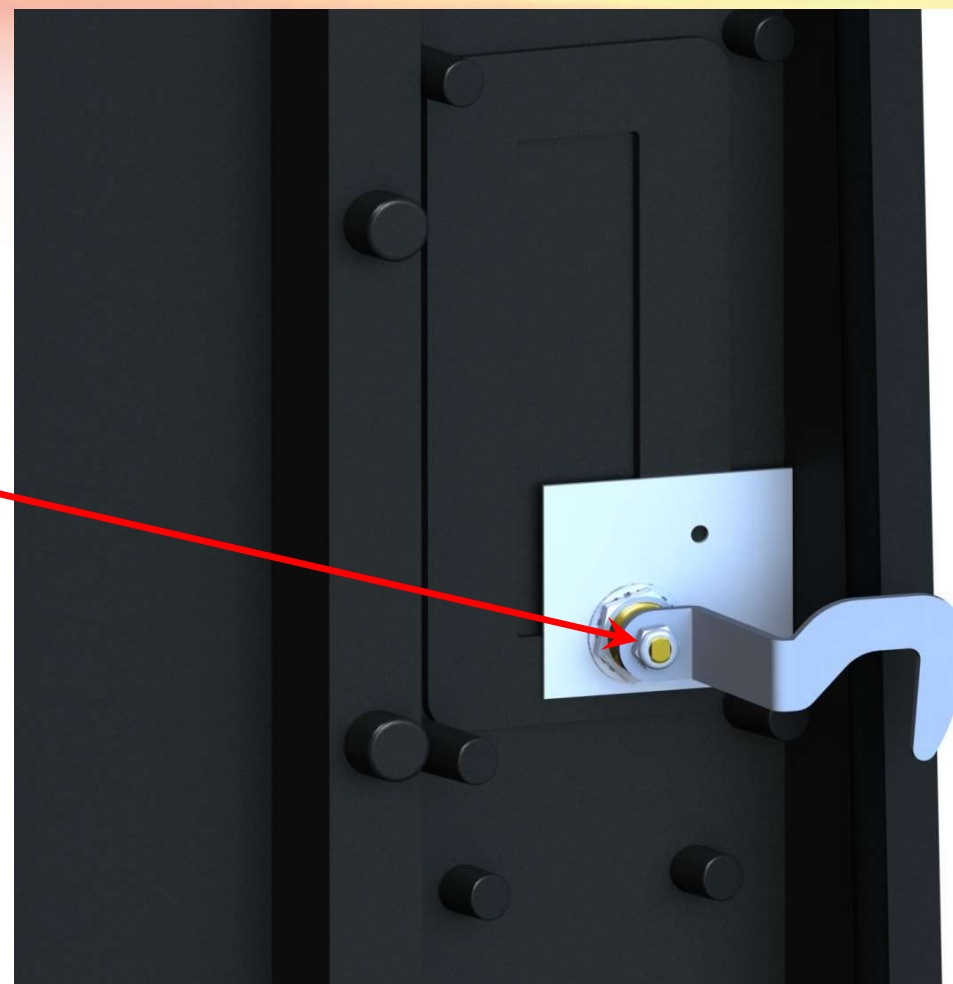

Figure 5
Install Cam (A) to Lock Assembly (C) and secure with Thread Locking Cam Nut (B) (Fig 5).